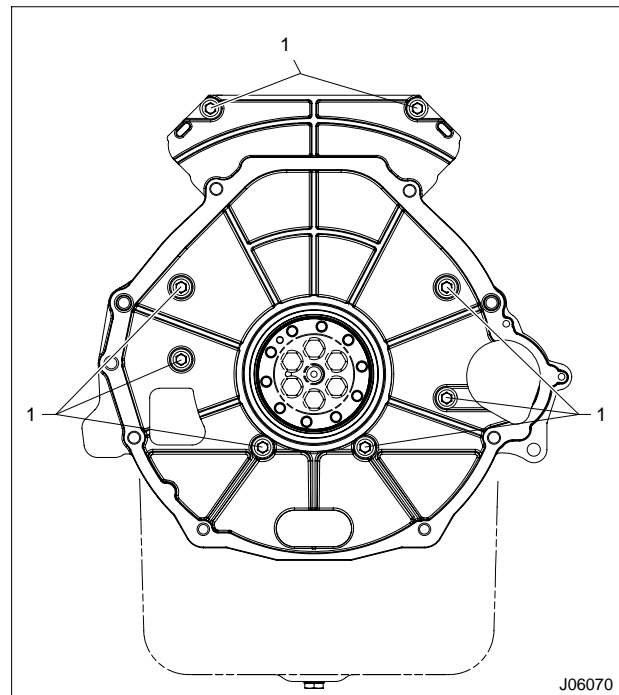

Figure 605 Rear cover bolt arrangement (CF)
6. CF Chassis – Install eight rear cover mounting bolts (M8 x 35) and tighten to the Standard Torque (page 405). Refer to (Figure 605).